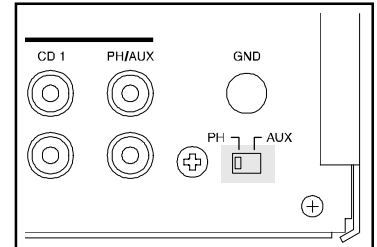

Figure 4
C. Insert the bare section of the cable end or connector into the access hole, and tighten the terminal nut clockwise until the cable is firmly clamped into the terminal so the wires cannot slip out. Refer to figures 4, 5 & 6.
When using a phono player with a moving magnet cartridge connected to the PH/AUX inputs, set the PH-AUX switch to the PH position. When using an auxiliary program source component connected to the PH/AUX inputs, set the PH-AUX switch to the AUX position. Refer to figure 4.